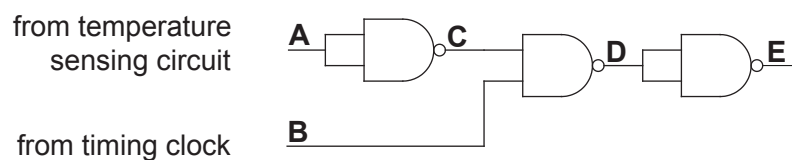
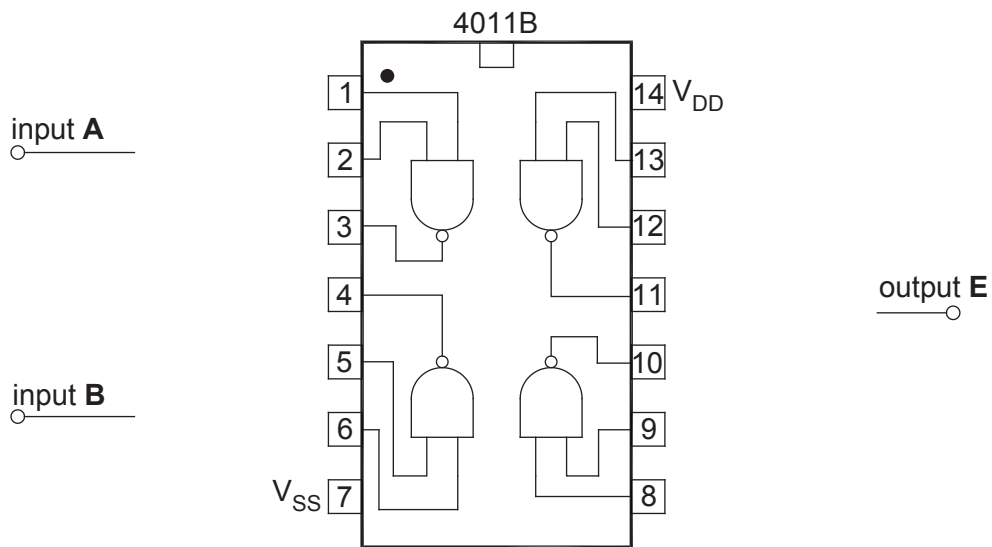

Fig. 11.3
Fig. 11.4
- (b) Fig. 11.3 shows the logic system that is used in the controller.
(c) Fig. 11.4 shows the CMOS IC that will be used in the controller.
(ii) Complete Fig. 11.4 by adding the connections that would make the logic circuit in Fig. 11.3. [3]